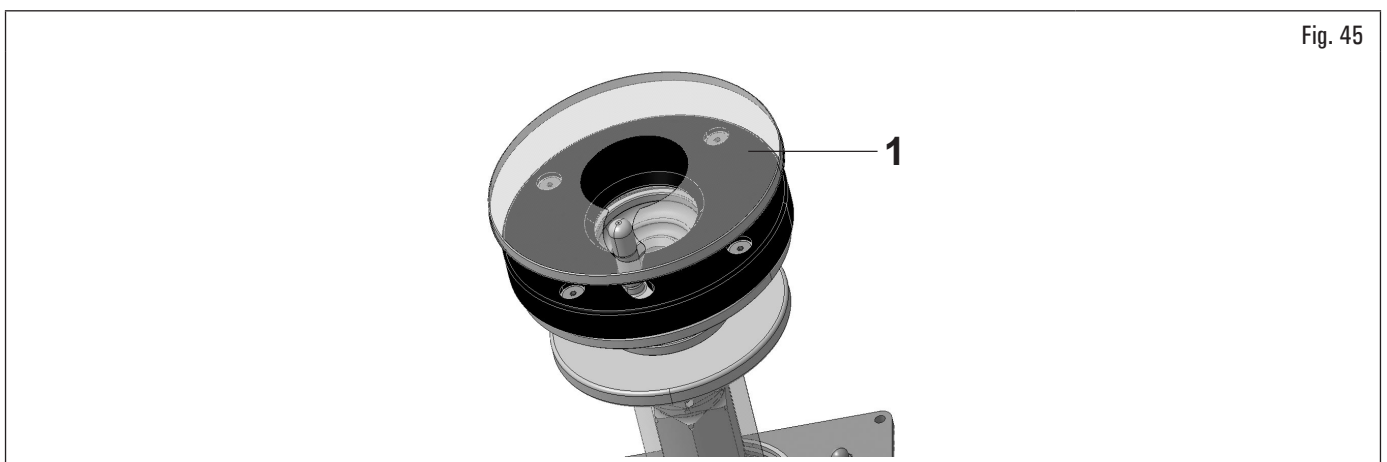

Fig. 45
In case reversed wheels are used, in order to protect the rim, apply on the rubber platform a protection (Fig. 45 ref. 1), supplied. We suggest replacing it if there are visible damages (see Fig. 45).